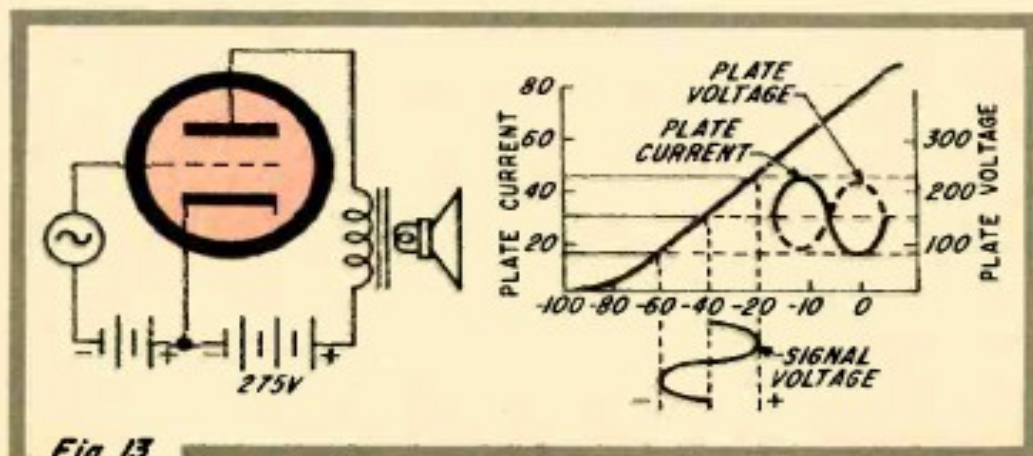

Fig. 13
**The Weight Lifter.** Voltage amplifiers before and after the detector can take a weak signal and build it up to a peak value of several volts, but such a signal still lacks the power to drive a speaker. Electrical power equals voltage-times-current, and the plate circuits of our voltage amplifiers have only two or three thousandths of an ampere flowing in them. We must use another tube, as shown in Fig. 13, to transform our amplified signal voltage into power.